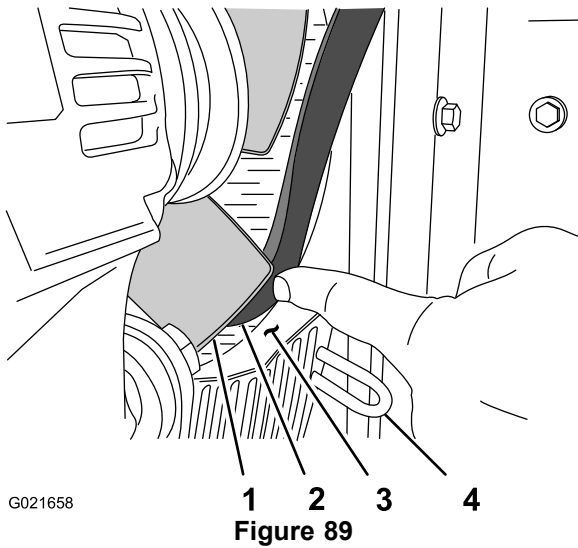

Figure 89
- At the 4 o'clock position of the fan shroud, align the belt between the tip of the fan blade and the opening in the shroud (Figure 89).
1. Align the belt between 2 of the fan blades, and carefully push the belt forward and down until it is in front of the fan (Figure 89).
3. Align the belt between the tip of the fan blade and the opening in the shroud (Figure 89).